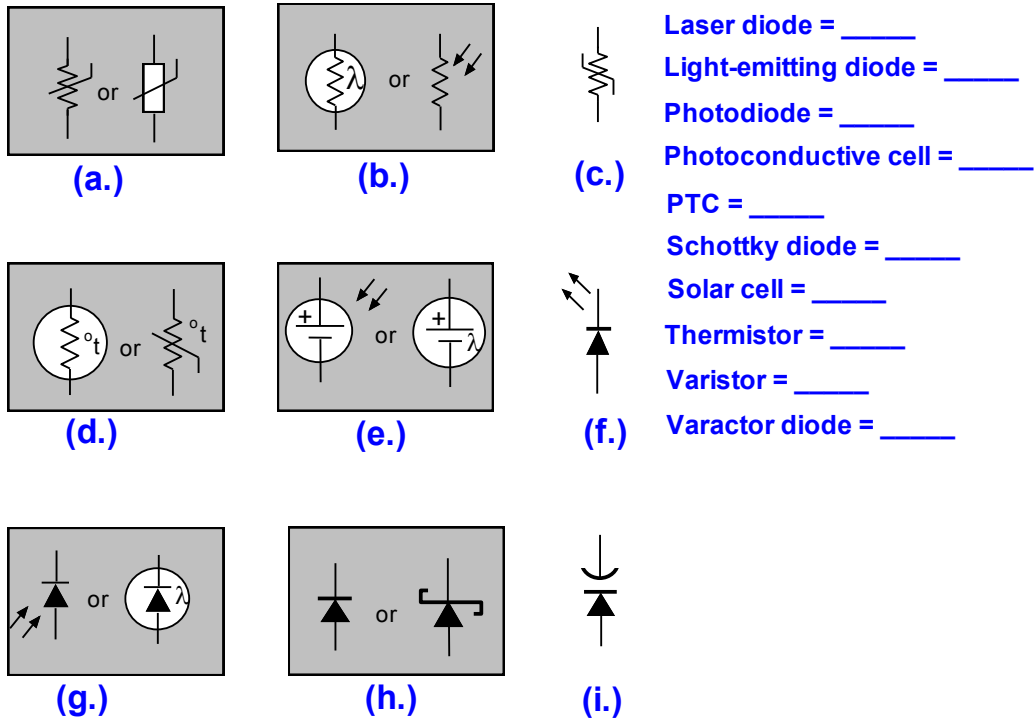

Figure 3-61.
- 3-46. Match the schematic symbols in Fig. 3-61 with their names. Some answers may be used more than once.